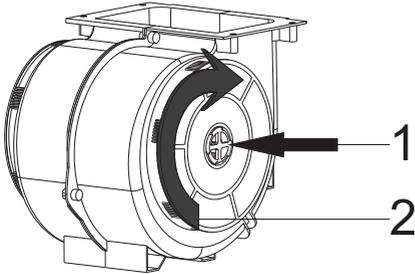

Fig. 6 AF 100 Carbon filter
1. Place your carbon filter in the appropriate slot, Fig. 6.
2. Rotate the carbon filter clockwise and ensure it is correctly positioned (Fig. 6).